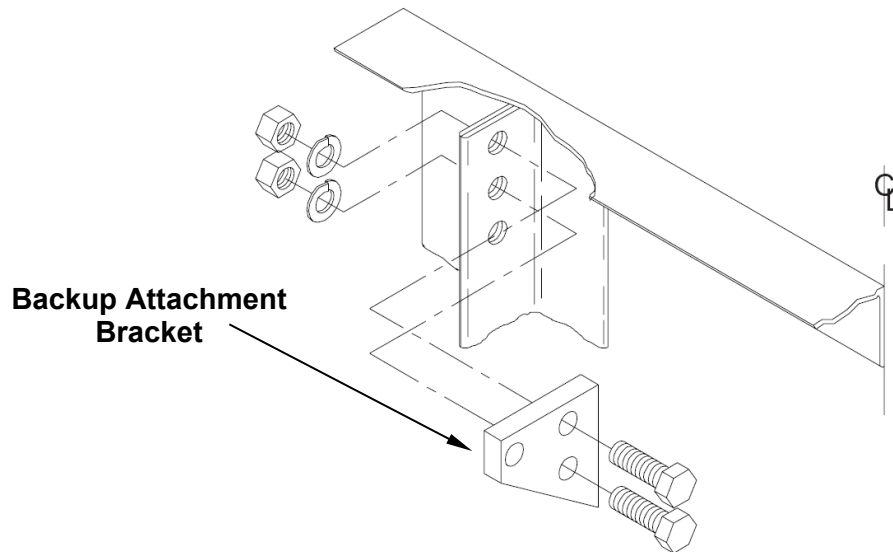

Figure 3
6. Attach the Backup Attachment Brackets (PN 605405) to the upper two holes in the Backup using the 1" diameter x 3" long hex head bolts, lock washers, and nuts provided (see Figure 3). Torque the nuts to 340 N-m [250 ft-lb].